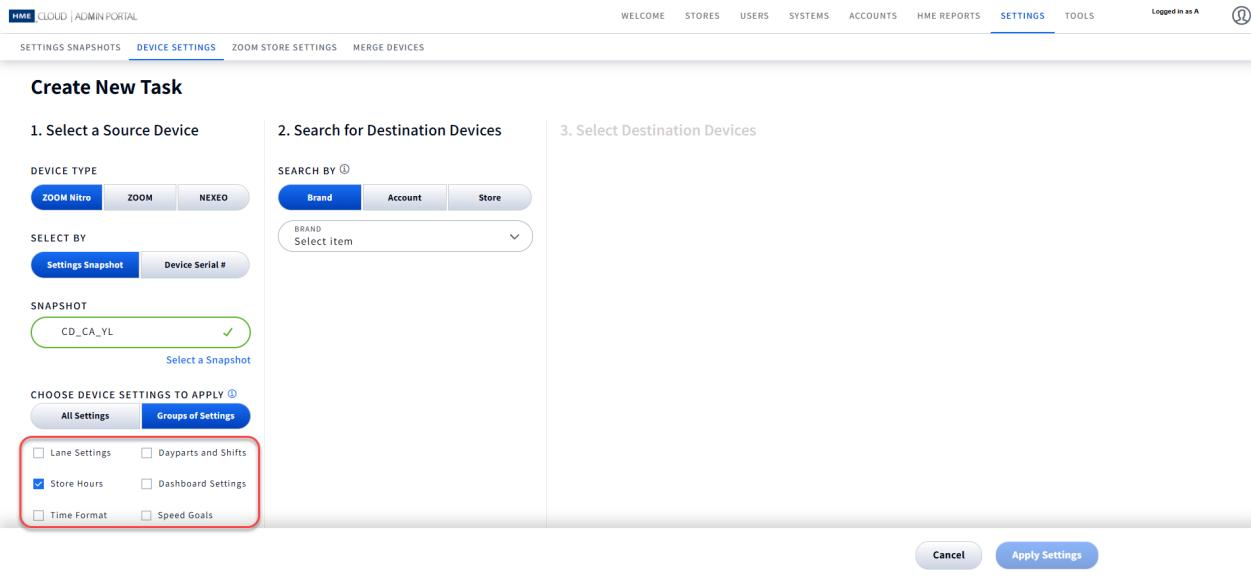

Fig. 13.11
- All the listed settings in Fig. 13.11 are configured through the ZOOM Nitro dashboard. Here is a brief description of each of the settings.